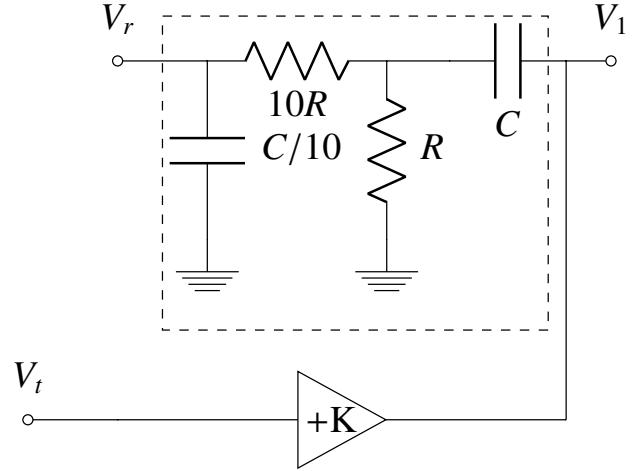

Fig. 1
- Then apply a test voltage V_t and find the returned voltage V_r , as indicated in Figure: 1.
where $T(s)$ is the transfer function of the two-port RC network shown inside the broken-line box in Figure: 1.
2. Equivalent control system model of Fig. 1
5. Building gain K in spice simulation for circuit Fig: 1